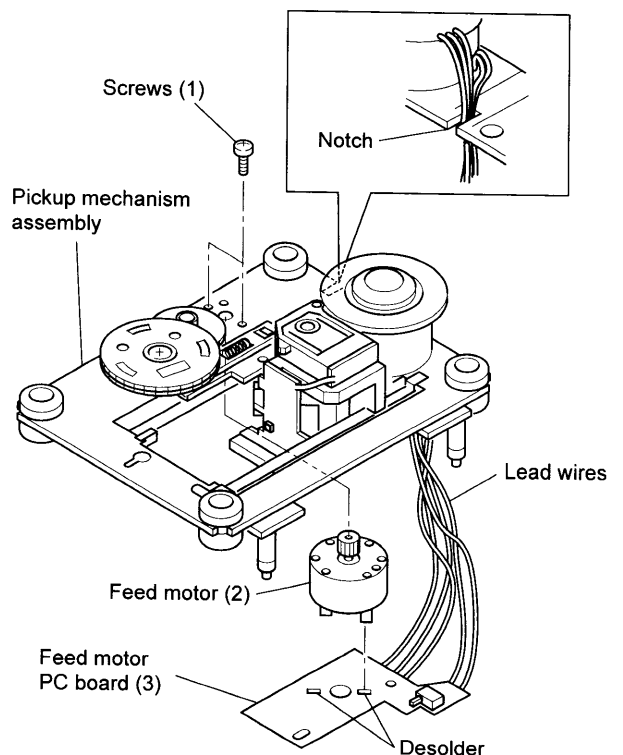

Fig. 2-1-21
1. Remove the gear B assembly (1) and the gear A (2). (Refer to item 1-3-5.)
2. Remove two screws (1) and remove the feed motor (2) (with the feed motor PC board (3) attached). (Refer to Fig. 2-1-21.)
3. Desolder the terminals of the feed motor (2) and remove the feed motor PC board (3).